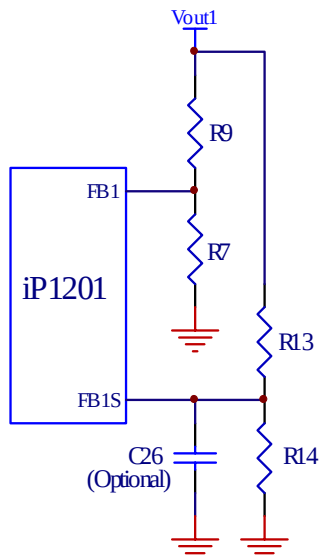

Fig. 19: Typical scheme for output voltage setting
Both outputs of the iP1201 will shut down if either one of the outputs experiences a voltage in the range of 115% of V_{OUT} . The overvoltage sense pins FB1s and FB2s are connected to the output through voltage dividers, R_{13} and R_{14} (Fig. 19), and the trip setpoints are programmed according to equation (1). Separate overvoltage sense pins FB1s and FB2s are provided to protect the power supply output if for some reason the main feedback loop is lost (for instance, loss of feedback resistors). If this redundancy is not required and if Type II control loop compensation scheme is utilized, FB1s and FB2s pins can be connected to FB1 and FB2 pins respectively. An optional 100pF capacitor (C26) is used for delay and filtering purposes.
When selecting output capacitors, it is important to consider the overshoot performance of the power supply. If the amount of capacitance is not adequate, then, when unloading the output, the magnitude of the overshoot due to stored inductor energy, and depending on the speed of the response of the control loop, can exceed the overvoltage trip threshold of the iP1201 and can cause undesirable shutdown of the output. The magnitude of the overshoot should be kept below $1.125V_{OUT}$. To prevent the overshoot from tripping the output a delay can be added by installing capacitor C26 as shown in Fig.19.
From Fig.19 the transfer function $H(s)$ of the error amplifier is given by (9):